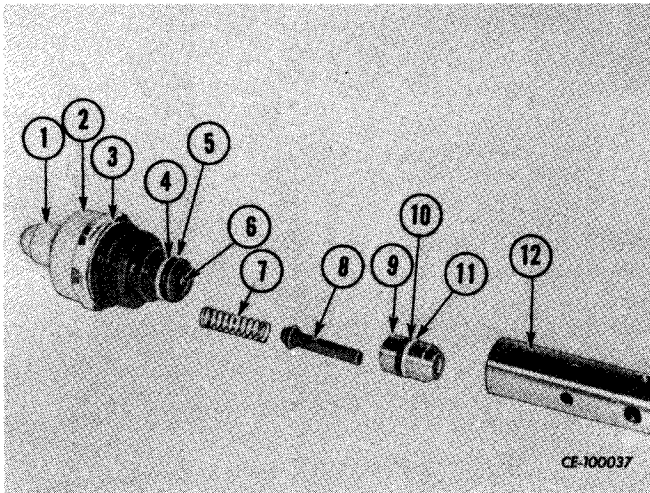

Figure 11-16
Remove acorn nut, jam nut and adjusting screw (1, Fig. 11-16). Pull poppet (6) out through adjustment end of relief valve. Remove and discard "O" ring (3), back-up ring (4) and "O" ring (5) from relief valve.
Install "O" ring (10, Fig. 11-16) and back-up ring (11) on poppet (9) and insert poppet in sleeve (12). Insert piston (8) and spring (7) into sleeve (12). Install "O" ring (3), back-up ring (4) and "O" ring (5) on relief valve (2) and install end of relief valve into sleeve (12).